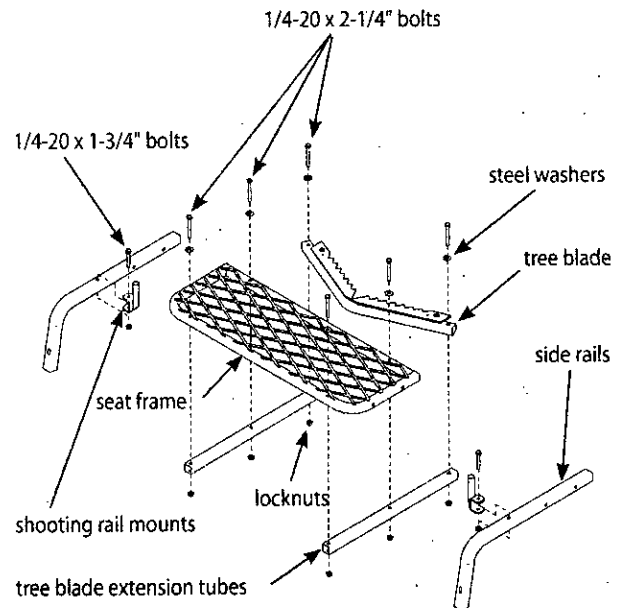

Figure 3
4. Attach the (2) tree blade extension tubes (112ML62) to the bottom side of seat frame using (4) provided 1/4-20 x 2-1/4" bolts, locknuts and steel washers. **SEE FIGURE 3.**
5. Attach the tree blade (2ML130) to the top side of tree blade extension tubes using (2) provided 1/4-20 x 2-1/4" bolts, locknuts and steel washers. **SEE FIGURE 3.**
6. Attach the (2) shooting rail mounts (112ML53) to the side rails using (2) provided 1/4-20 x 1-3/4" bolts and locknuts. **SEE FIGURE 3. You must now tighten all nut & bolt assemblies. Be sure not to over tighten or crush tubing when tightening!**